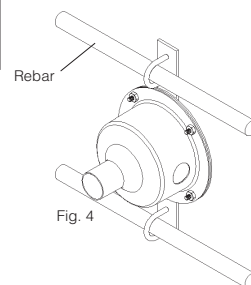

Fig. 4
- Attach the assembly to structural rebar in such a way as to pull the assembly against the back of the concrete forms to help hold it in place while the concrete is being poured, as shown in Fig. 4.